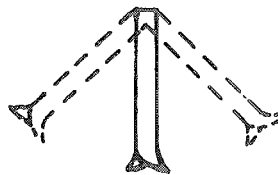

Fig. 2.15 Tension test (twisting).
1. *45° of twist.* Lightly grip the blade between finger and thumb and gently twist/turn the blade. If you cannot reach 45° then the tension is too much and if the blade passes 45° there is not enough tension (**Fig. 2.15**). Note that if the teeth are digging into your hands then you are using too much force.